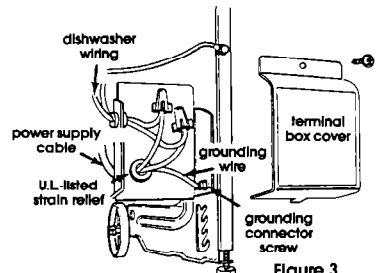

Figure 3
3. Remove the dishwasher terminal box cover. Connect the white and black wires of the power supply cable to the white and black leads in the terminal box with twist-on wire connectors. (See Figure 3.)
4. Connect the green, grounding wire of the power supply cable to the grounding connection screw located inside the terminal box. (See Figure 3.)